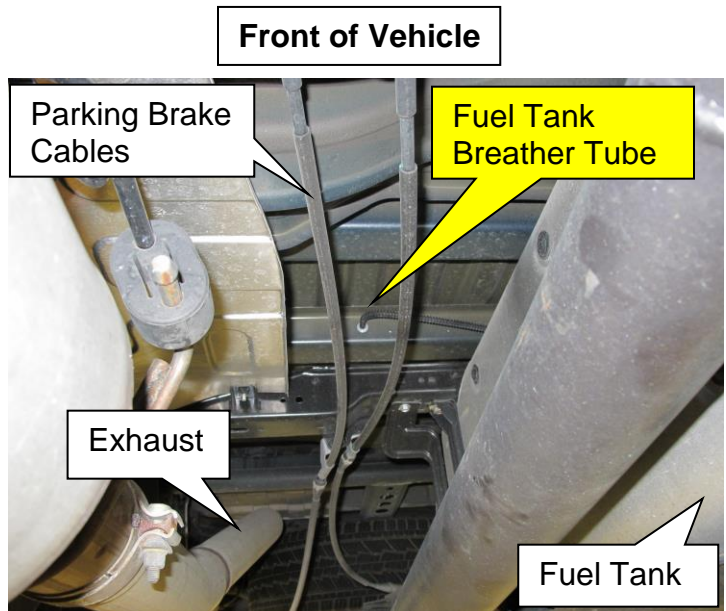

Figure 1
2. Locate the fuel tank breather tube and where it is fitted into the bed rail (Figure 1).